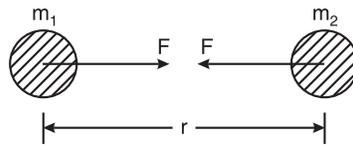

Fig. 1.1
2. **Newton's law of gravitation:** It states that the force of attraction between two bodies is directly proportional to the product of their masses and inversely proportional to the square of the distance between them. Let m_1 and m_2 be the masses of two bodies and r the distance between them, then as shown in Fig. 1.1.